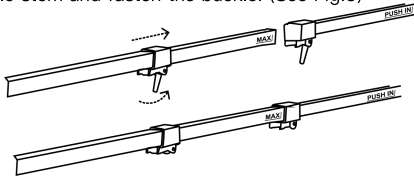

Fig.3
2. Open the buckle on the middle stem, and insert the lower stem into the middle stem. Adjust the length that the lower stem inserts to the middle stem and fasten the buckle. (See Fig.3)